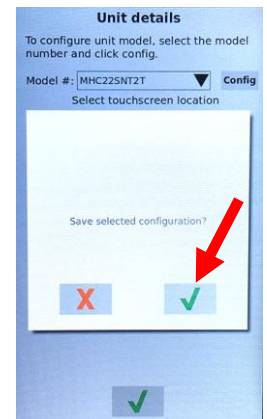

Figure 45
58. The controller displays “**Save selected configuration?**” Press the green checkmark button to continue (see Figure 45). If another display on the cabinet needs to be configured, repeat steps 53-58 on that display.